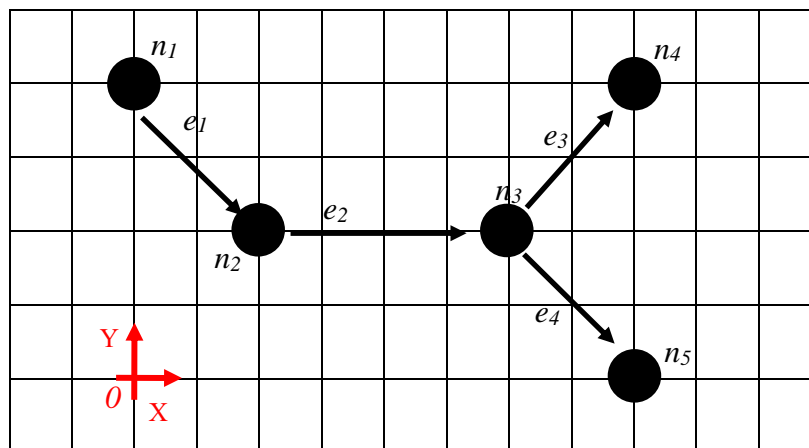

Figure 3. The desired topological graph of five agents.
24. (Q): Write down the Laplacian matrix of the graph in *Figure 3*, assuming all weights equal to one.
25. (Q): Write down the x- and y- biases of the agents in the graph relative to the origin of the coordinate system shown in *Figure 3*.
26. (Q): Assuming that each node of this graph has a state defined by its Cartesian position (node n_1 has (x_1, y_1) ; node n_2 has (x_2, y_2) ; etc.), write a Laplacian control law that will accomplish the formation of *Figure 3*.
27. (S): Open Matlab by typing “*matlab*” in a terminal. Open the script “*laplacian_formation.m*” in Matlab. Run the script. You will see five agents moving in the space converging to a formation. Verify that this formation is the one shown in *Figure 3*. How long does it take for the agents to get to their proper positions in the formation?
28. (Q): Read the “*laplacian_formation.m*” script carefully and try to locate where the Laplacian matrix is computed. Locate where bias vectors are defined in the code and verify your answer to 25.
29. (Q): Try to find out how your differential equation in question 26 is implemented in discrete time. Write down the control law implemented in the code and compare it with your differential equation.